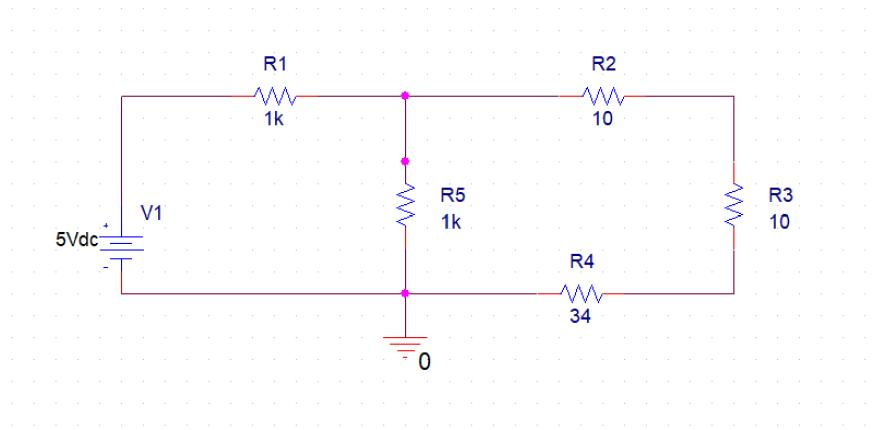

Figure 7: Resistive Network Schematic.
22. Hit **w** on your keyboard or click  to wire and connect the terminals of each part so it resembles Figure 7.